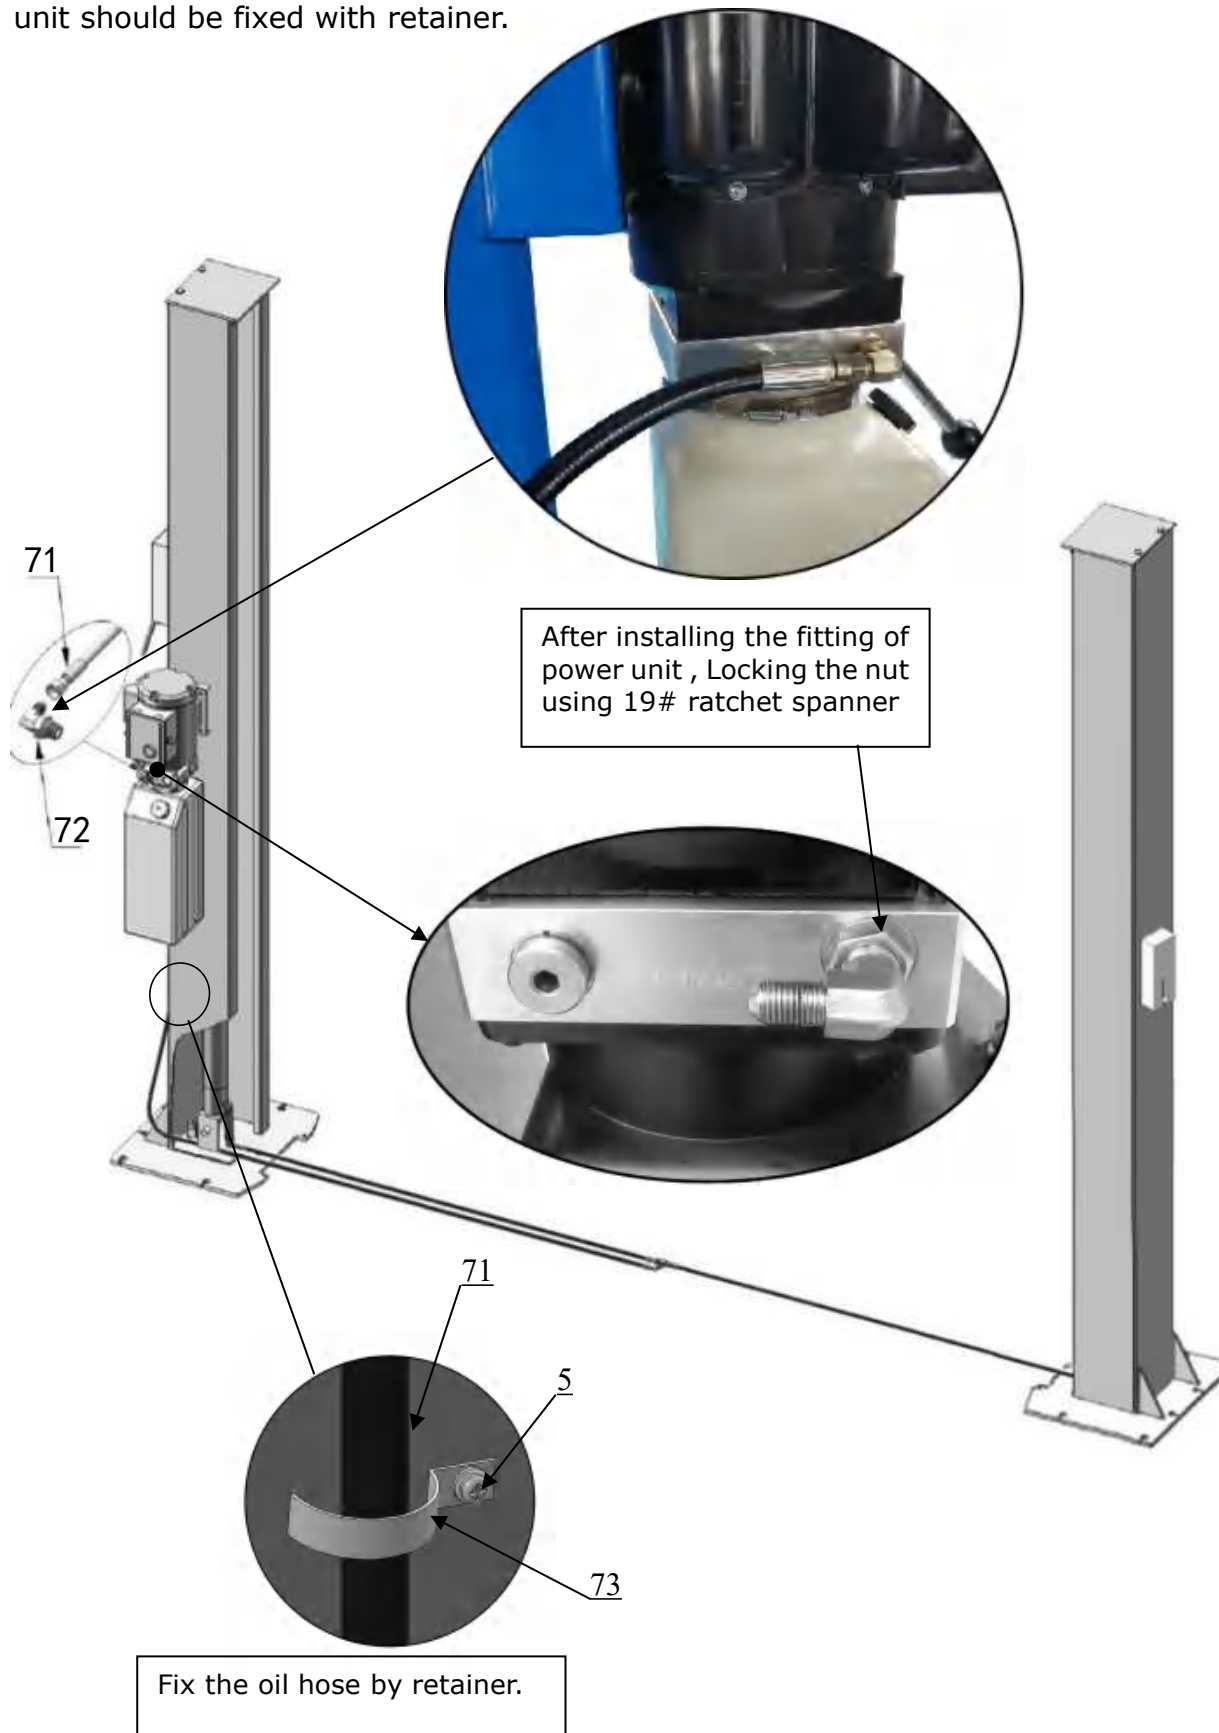

Fig.20
K. Install hydraulic power unit and oil hose assy. (See Fig. 20).